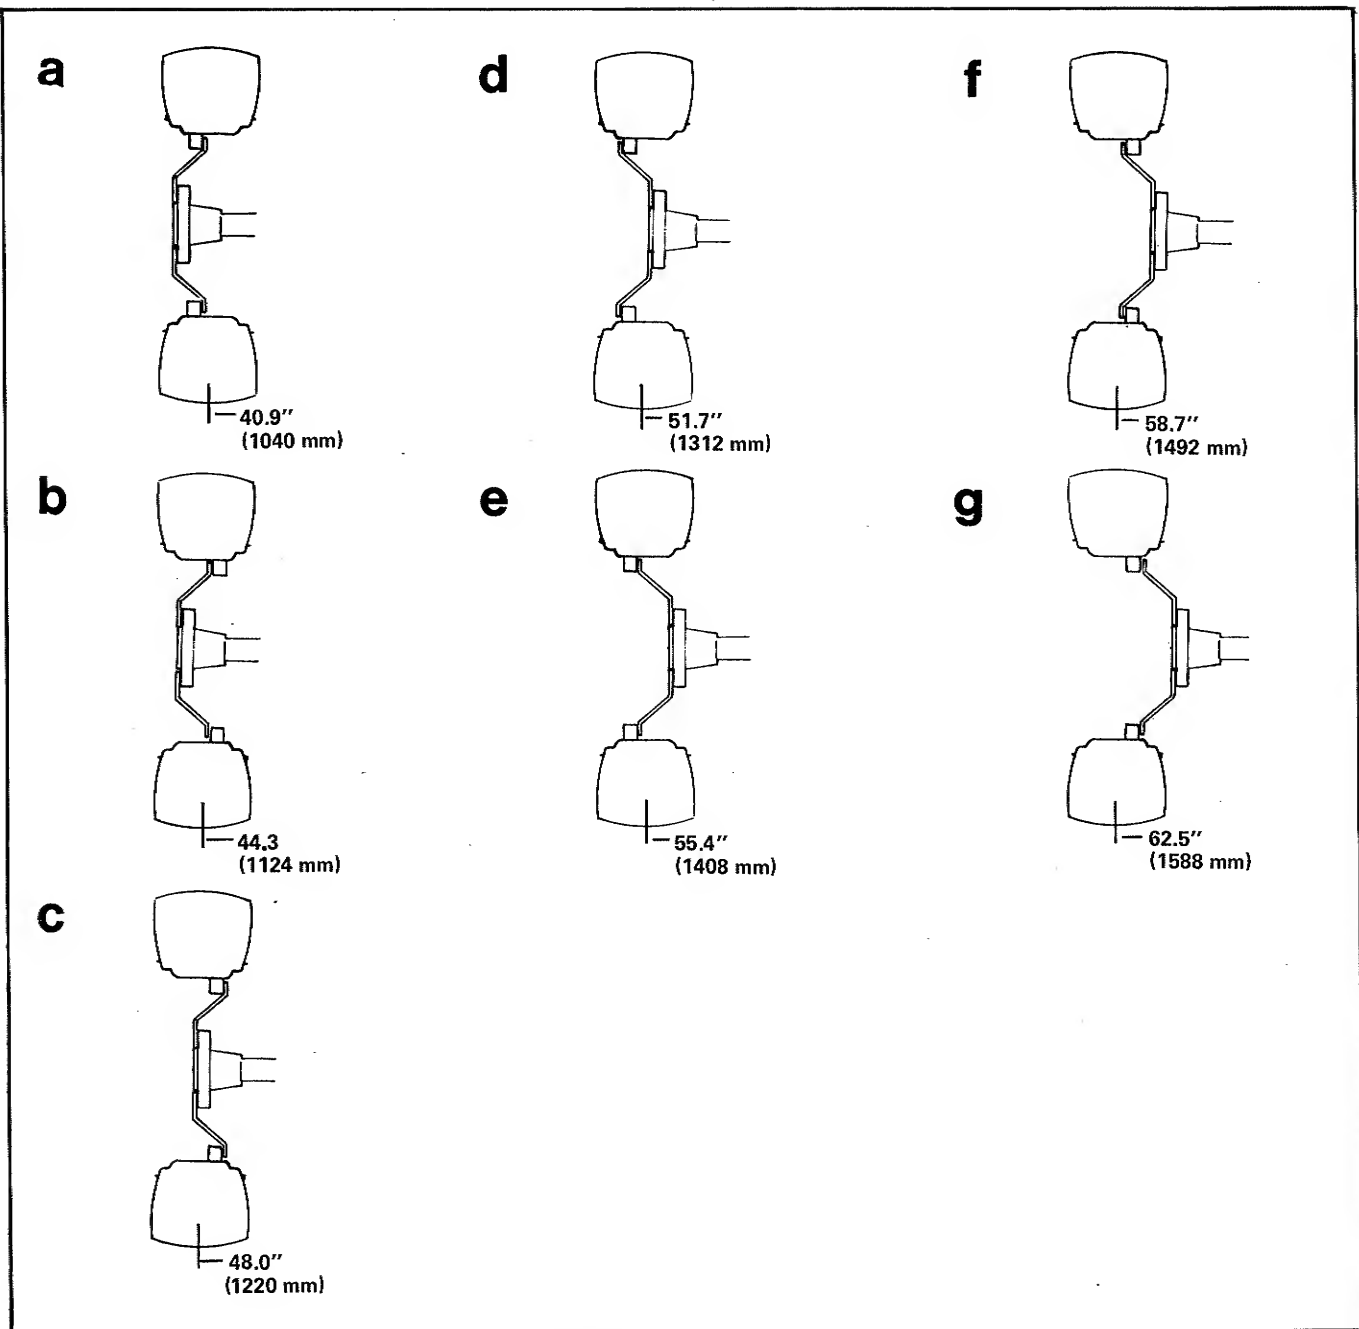

FIGURE 40 - 5030 Rear Wheel Tread
MODEL 5030 & 9528 REAR WHEEL TREAD WITH 12.4 x 24 AGRICULTURAL TIRES (Figure 40)
The rear wheel hubs cannot be shifted on the axle but wheel discs can be mounted either dished in or dished out and the wheels can be bolted to the discs in several ways to provide seven wheel treads as shown in Figure 40.
2. Block the front wheels securely to keep the tractor from moving forward or backward, then jack up and block both ends of the rear axle housing securely in such position that the rear wheels and wheel discs can be interchanged and located to provide the desired wheel tread, a, b, c, d, e, f, or g as shown in Figure 40.
NOTE: Figure 40 shows only the left rear wheel for each of the tread widths a. through g. In each case the right rear wheel must be located in the same position to equally space the wheels from the tractor center line. Rearrange the wheels from side to side as required to make sure that tires always rotate in the proper direction as specified by the forward rotational direction arrow on the side of each tire.